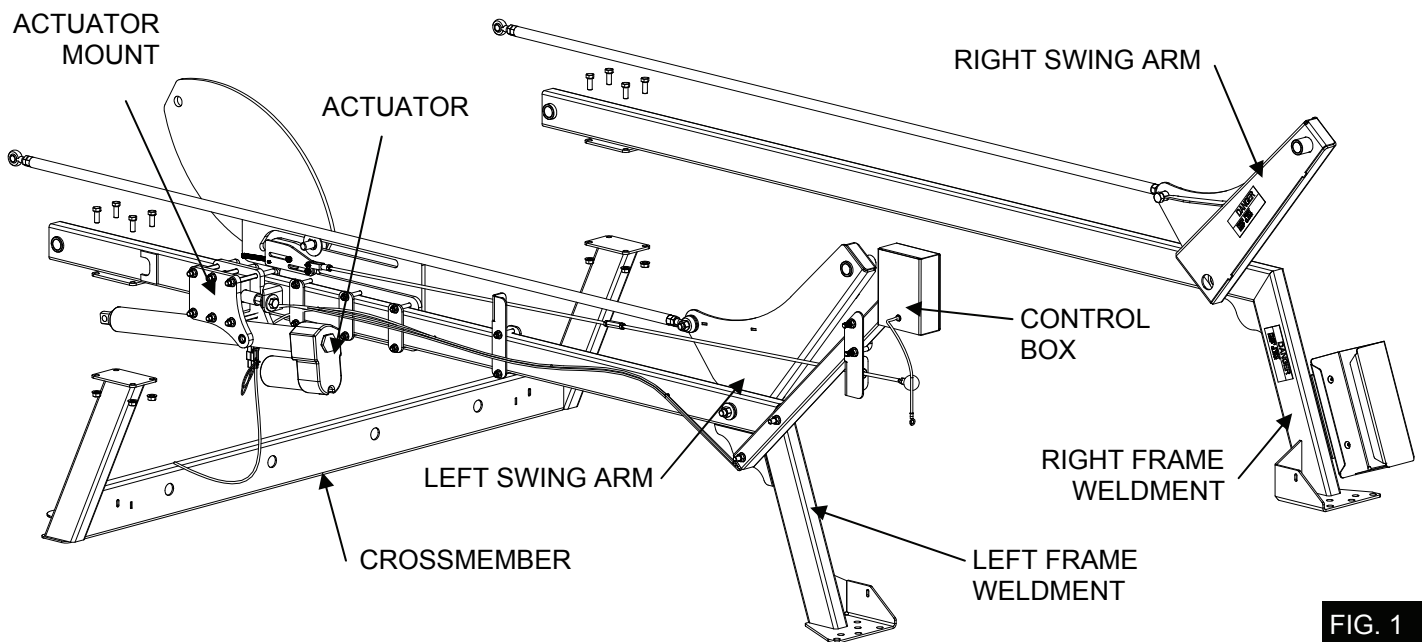

FIG. 1
- 6.2. Inside the vehicle, assemble the left and right frame weldments to the crossmember using (8) 3/8 X 1 UNC bolts and (8) 3/8 serrated flange nuts as shown in **FIG.1**. Finger tighten all attachment bolts. Final tightening will be completed following installation and adjustment of the torsion arm and tie- rods.